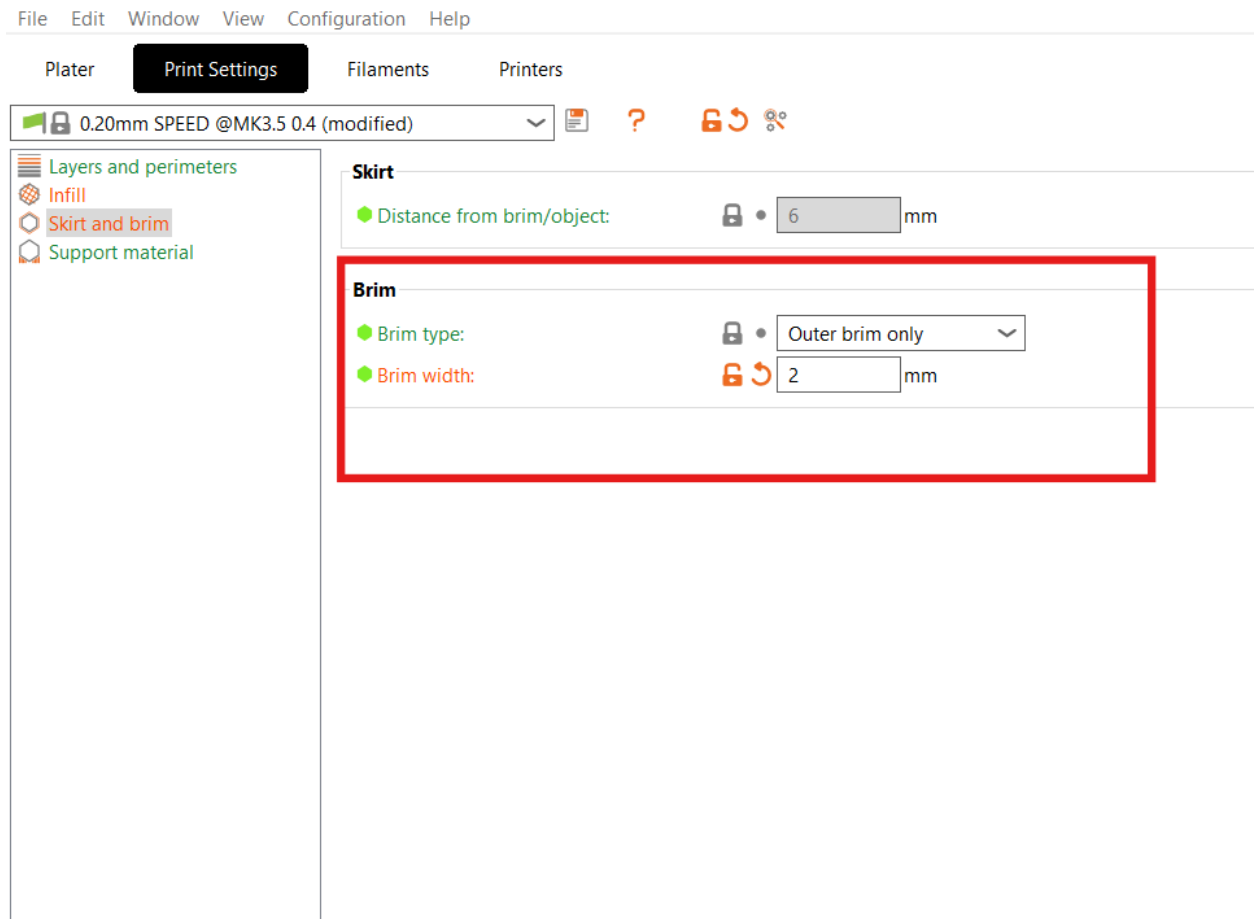

Figure 5. Selecting a Brim
9.) Now, go to the brim tab and select an outer brim with 2 mm width shown in Figure 5: